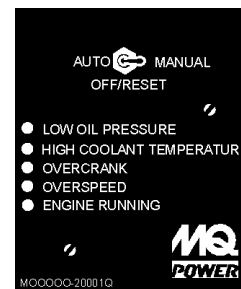

Figure 63. Engine Running LED (ON)
7. Verify that the **"Engine Running"** status LED on the MPEC unit (Figure 63) is **"ON"** (lit) after the engine has been started.